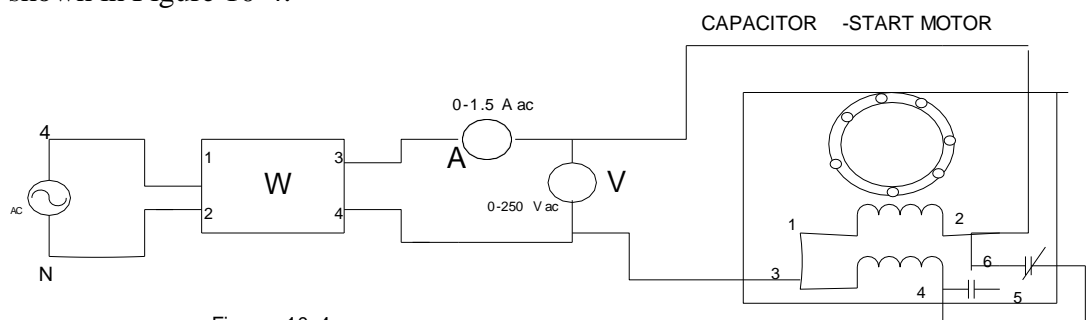

Figure 10-4
5. Using your Single-Phase Wattmeter AC Ammeter and AC Voltmeter connect the circuit shown in Figure 10-4.